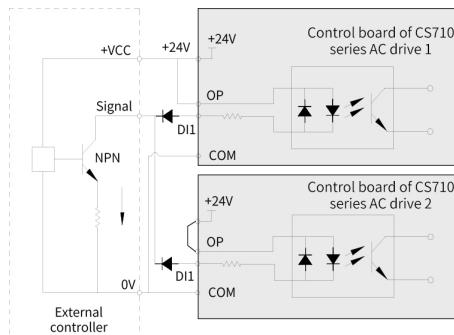

Figure 3-64 Wiring for parallel connection of DI terminals of multiple AC drives in sink mode
- \* This wiring method does not allow DI terminals of different AC drives to be connected in parallel because parallel connection may cause malfunction of the DI terminals. If parallel connection is needed, connect a diode in series to each DI terminal (connect the anode to DI). The diode must meet the following requirements: IF > 40 mA, VR > 40 V. Figure 3-64 shows such parallel connection.